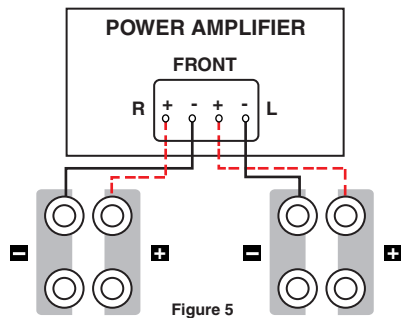

Figure 5
**Note: To ensure proper performance, make sure that the wire from the red (+) terminal on the speaker is connected to the red (+) terminal on your amplifier or receiver. Likewise, make sure the wire from the black (-) terminal on the speaker is connected to the black (-) terminal on the amplifier or receiver. (Figure 5)**